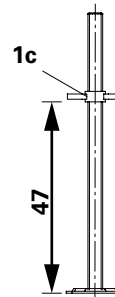

Fig. A2.04
- Instead of the Base Spindle UJB 38-50/30 (**1a**), the Base Spindle TR 38-70/50 (**1c**) with a maximum spindling length of 47 cm can also be used. (Fig. A2.04)